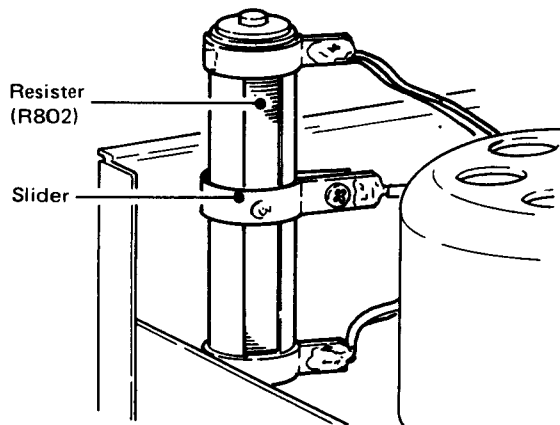

Fig. 2-6
7. If necessary, adjust the slider of the resistor (R802) until the proper torque value is obtained. See Fig. 2-6.